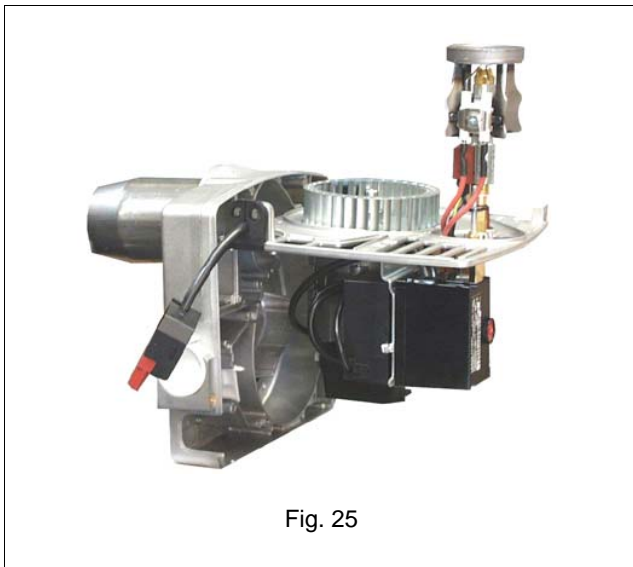
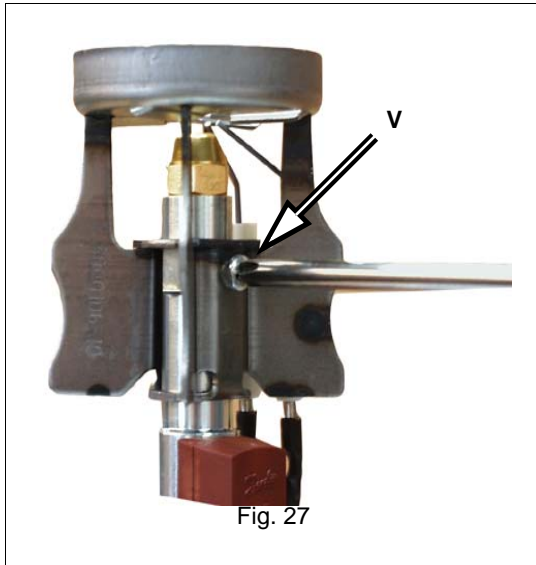
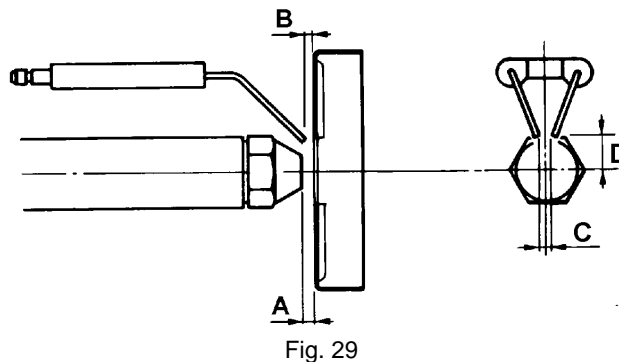

Fig. 25
Fig. 27
Fig. 29
- disassemble, check and clean of the combustion head. When re-assembling carefully observe the measures quoted in Fig. 29;
Before disassembling the nozzle and the electrodes, disconnect the cables CV (Fig. 27), measure the positions quoted in Fig. 29 and make a note in the table on Tab. 6.
**⚠ In order to remove the nozzle, it is important to use two wrenches as shown in Fig. 25, to avoid damaging the burner component plate!**
- 7 Unscrew the V screw that fastens the combustion head and remove the head from the nozzle-holder (Fig. 27 - Fig. 25)
Reassemble the combustion head by respecting the position "A" measured previously, making sure to fasten the V screw (Fig. 27)
Before disassembling the nozzle, measure the real position "A" (see Fig. 29) and make a note in the table below.